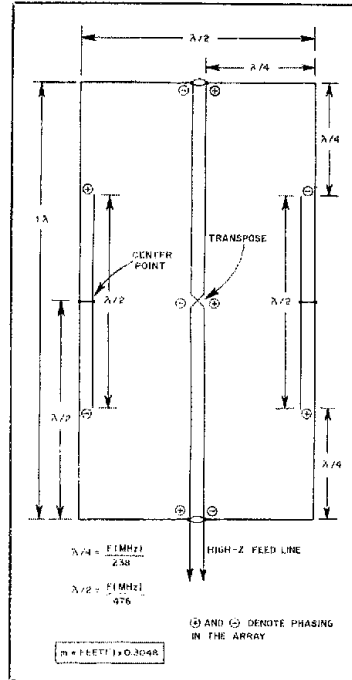
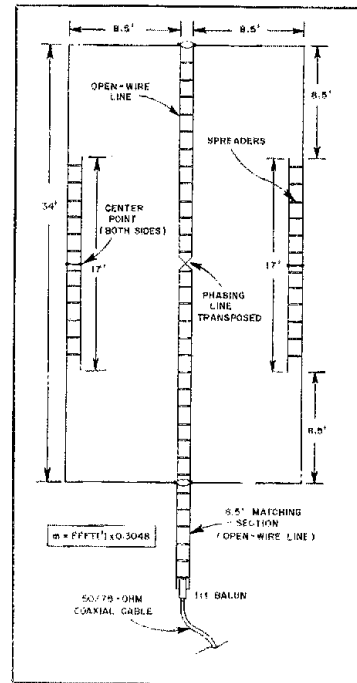

Fig. 1 — Drawing of the Quad-J-Collinear antenna, showing principal phase and element-length relationships.
Fig. 2 — Dimensional drawing of a Quad-J-Collinear antenna for the 10-m band. Resonance is set for 28.0 MHz.
Fig. 1 illustrates the basic principle of operation, and may also be used as a design guide. Fig. 2 provides the dimensions for a 10-m antenna. The array is constructed from copper wire for light weight and low wind resistance. It may be suspended by nylon ropes from existing towers, masts or even trees — provided that sufficient separation between supports exists.
Feed methods are left to your particular station requirements. However, it should be known that the feed point has a high impedance (> 1 k Ω), and is balanced. Because of these characteristics, either tuned feeders or a $1/4\lambda$ matching section with a balun (Fig. 2) may be used. The length of coaxial cable from the balun to the transceiver is non critical in this application. — Richard Schellenbach, W1JF, Reading, Massachusetts
□ A number of readers have expressed dismay over Fig. 1 of "Wire Antennas for the Beginner," June 1983 QST, p. 34. Some type of stress relief should be used at either end of the antenna support cable to prevent damage to the vent pipe from tree movement. Thanks to the many who wrote us!